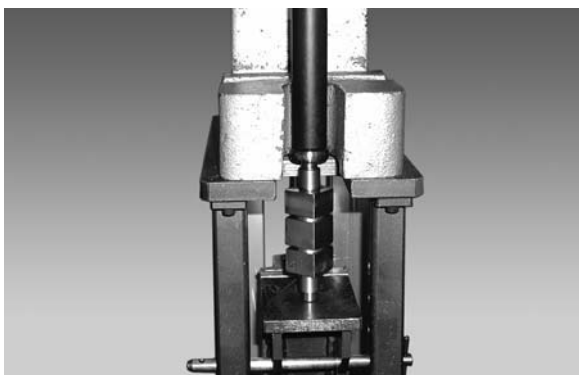

Figure 53
2. Press new bearing onto drive pulley using installation tool 450293 (**Figure 53, item 1**).